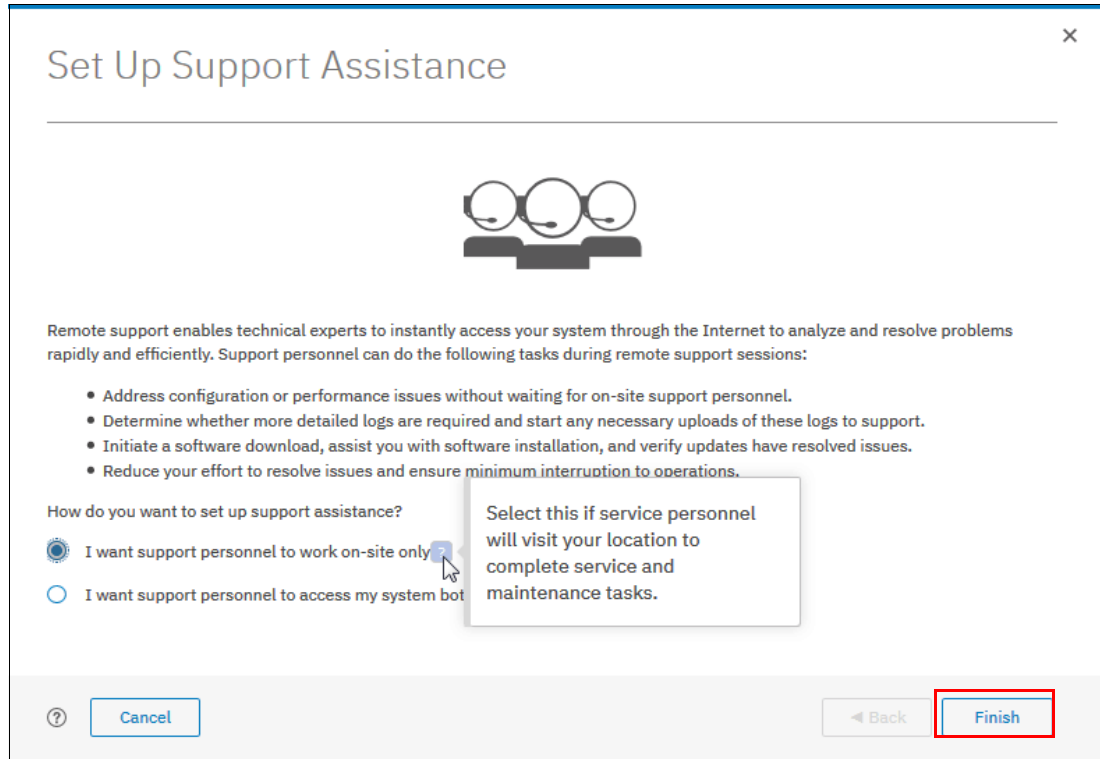

Figure 12-100 Enable local support
1. Select the **I want support personnel to work on-site only** option. Figure 12-100 shows how to enable local support.